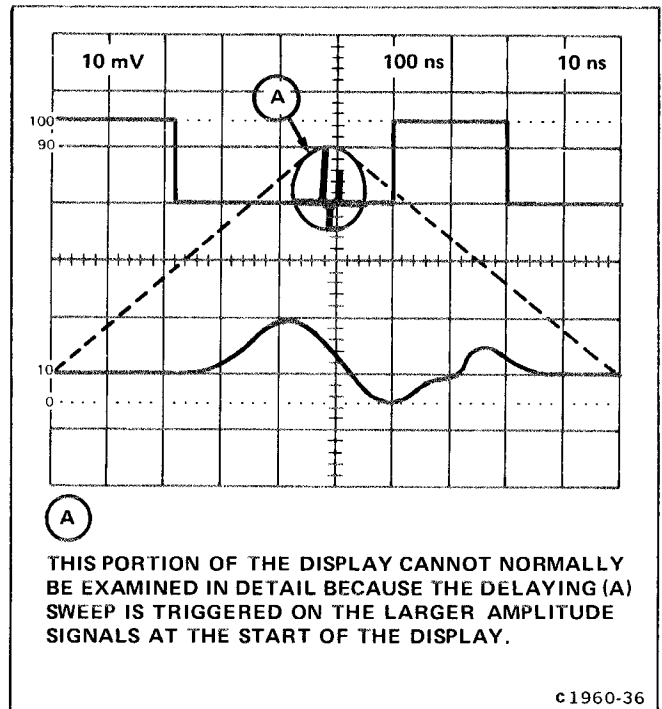

Figure 2-9. Magnifying a selected segment of the delaying (A) sweep in the delay-time mode with mainframe alternate or chopped horizontal operation.
5. To magnify a selected segment of the delaying (A) sweep waveform and determine apparent magnification in the delay-time mode:
- b. Set the appropriate triggering, position, deflection-factor, and sweep-rate controls for the desired dual-trace display. See the example in Figure 2-9.
*If there is excessive jitter in the delayed (B) sweep display, refer to the Triggered Delayed Sweep Magnification discussion.*
c. Turn the DELAY TIME control to position the intensified zone to the portion of the delaying (A) sweep waveform to be magnified.
d. Set the delayed (B) sweep unit sweep rate to select the desired duration of the magnified display as indicated by the length of the intensified zone.
e. Observe the magnified display on the delayed (B) sweep. See Figure 2-9.
*For a better look at the delayed (B) sweep waveform, set the mainframe to the B horizontal mode and the amplifier plug-in unit deflection factor to increase the display amplitude. Do not change the 7B15 TIME/DIV setting.*
f. Determine apparent magnification by dividing the 7B15 TIME/DIV setting by the delayed (B) sweep unit sweep-rate setting.
Example: The apparent magnification of the delayed (B) sweep shown in Figure 2-9 with a 7B15 TIME/DIV setting of .1 millisecond and a delayed (B) sweep unit sweep-rate setting of 1 microsecond is: